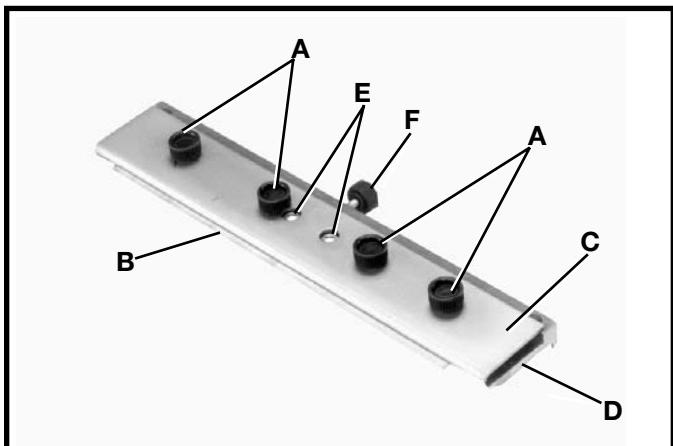

Fig. 52
1. Loosen four lock knobs (A) Fig. 52 and two screws (E) and carefully slide knife (B) between the top and bottom pieces (C) and (D) of the sliding tool rest. It is important that the bevel edge of the knife (B) is in the down position. Also, be sure the back of the knife is pushed in so it sits against the knife adjustment bar inside the tool rest.
2. Make sure knife (B) Fig. 52, protrudes out from the top and bottom pieces (C) and (D) of the sliding tool rest at least $5/16"$. If it does not, rotate adjusting knob (F) Fig. 50, clockwise to move the knife outward or counterclockwise to move the knife inward. When moving the knife inward, carefully push the knife (B) inward with a piece of scrap wood while turning the knob (F) counterclockwise. When you are certain the knife protrudes $5/16"$ outward from the sliding tool rest, tighten two screws (E) and four knobs (A).